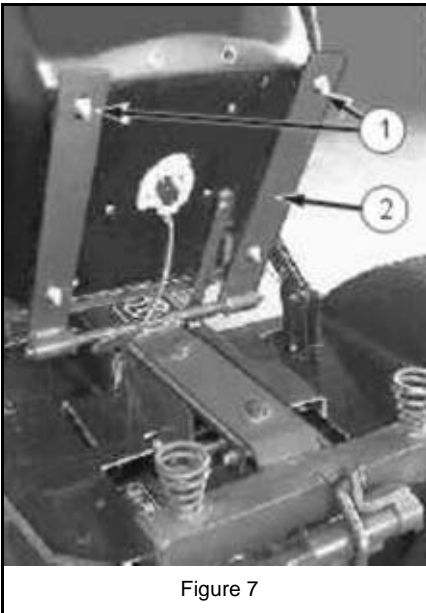

Figure 7
1. Fasten seat /slide assembly studs (1, Figure 7) into slotted holes in hinge mounting plate (2, Figure 7) four places and fasten with four 5/16" flat washers and nuts.